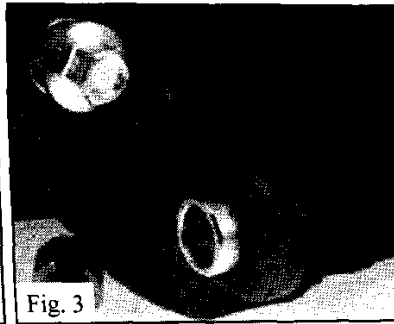

Fig. 3
20. With your thumbs, press the slider sleeves flush against their tabs to allow the caliper to be installed into the caliper bracket smoothly (Fig. 3). Prior to inserting the caliper into the bracket, you need to make sure that the pads are installed correctly.